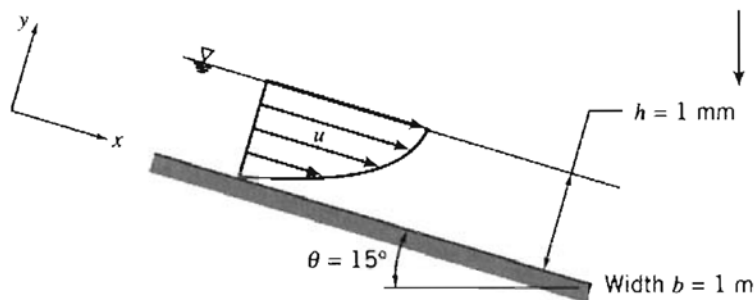

Figure 3
3. A viscous liquid flows down an inclined plane surface in a steady, fully developed laminar film of thickness  $h$  and width  $b$  (out of the paper) as shown in Fig. 3. A useful approximation of the flow is